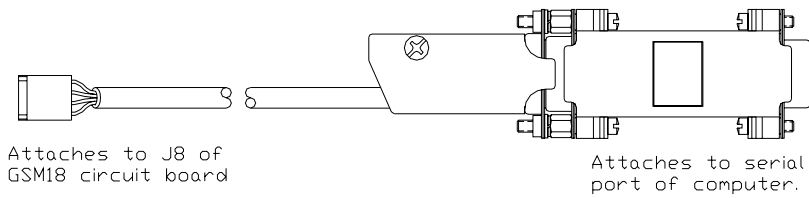

Figure 2-1
- PC-to-serial link (Metretek programmer cable) as illustrated in Figure 2-1. This item can be obtained under stock number 1002-0209B-001.